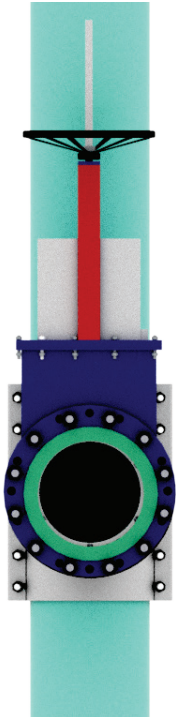

Figure 10A
3.2.1) Install the temporary gate valve. Use the 12" temporary gate valve for 10" and 12" HSF 250s. If using aluminum stopping heads, position the temporary gate valve at the true 3, 6, 9, or 12 o'clock position (see Figure 10A). This will assist in the alignment of an aluminum stopping head in the line stopping procedure.
NOTE: Temporary gate valves are single direction valves and must be positioned top up. The 12" gate temporary valve must be installed with the red bar facing up (see Figure 10A or 10B).